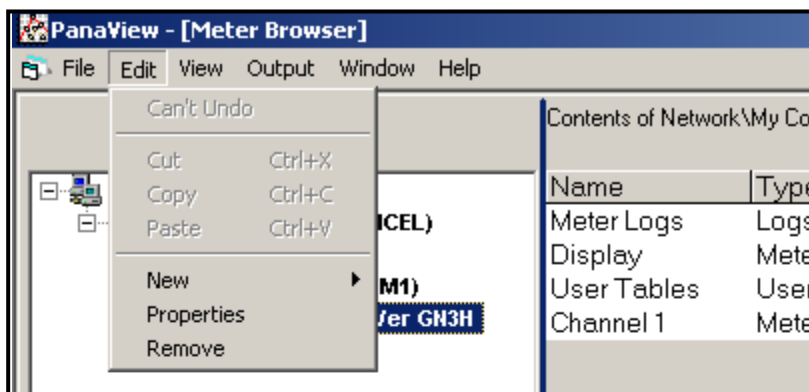

Figure 26: Properties Option in the Edit Menu
2. Open the *Edit* menu and select the *Properties* option, as shown in Figure 26.